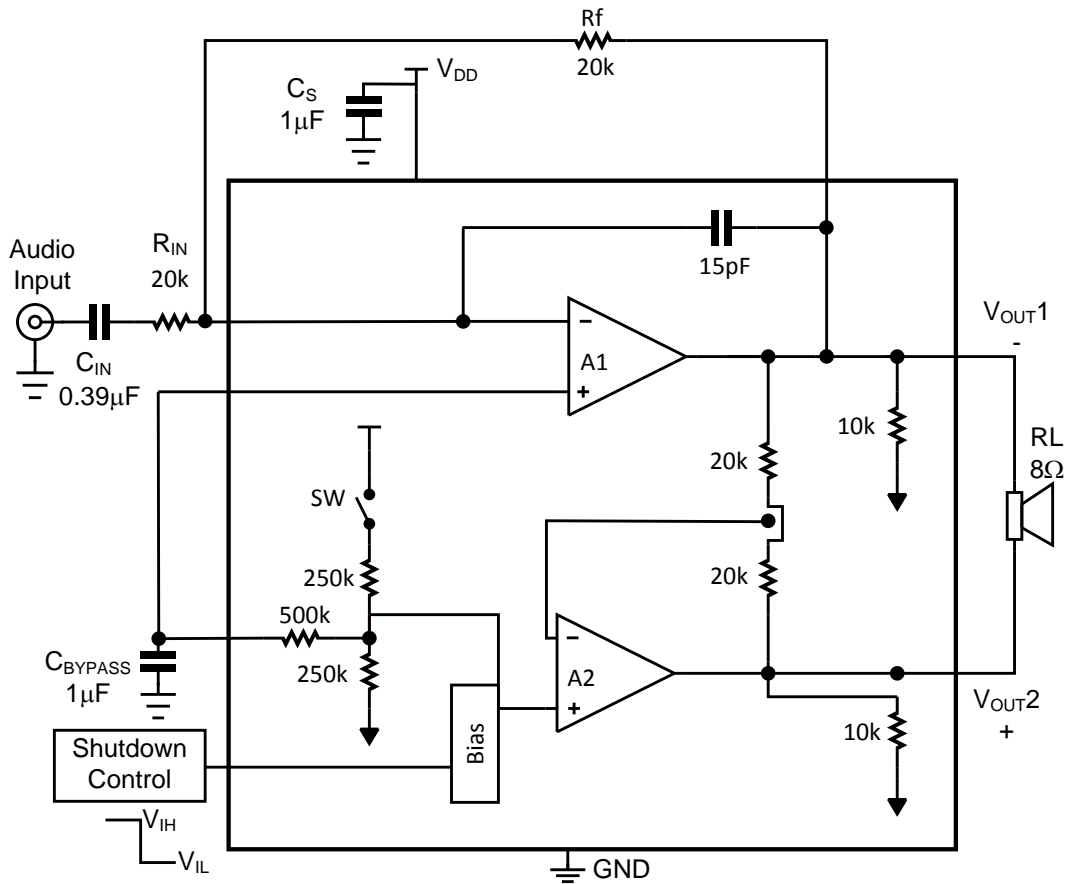

Figure 7. Typical Audio Amplifier Application Circuit
The following specifications apply for the circuit shown in Figure 7 unless otherwise specified. Limits apply for  $T_A = 25^\circ C$ .
- (1) All voltages are measured with respect to the ground pin, unless otherwise specified.
- (2) *Absolute Maximum Ratings* indicate limits beyond which damage to the device may occur. *Operating Ratings* indicate conditions for which the device is functional, but do not ensure specific performance limits. *Electrical Characteristics* state DC and AC electrical specifications under particular test conditions which ensure specific performance limits. This assumes that the device is within the Operating Ratings. Specifications are not ensured for parameters where no limit is given, however, the typical value is a good indication of device performance.
- (3) For DSBGA only, shutdown current is measured in a Normal Room Environment. Exposure to direct sunlight will increase  $I_{SD}$  by a maximum of 2 $\mu A$ .
- (4) Typicals are measured at 25 $^\circ C$  and represent the parametric norm.
- (5) Limits are specified to TI's AOQL (Average Outgoing Quality Level).
- (6) Datasheet min/max specification limits are specified by design, test, or statistical analysis.
- (7) ROUT is measured from each of the output pins to ground. This value represents the parallel combination of the 10k ohm output resistors and the two 20k ohm resistors.
- (8) PSRR is a function of system gain. Specifications apply to the circuit in Figure 7 where  $A_V = 2$ . Higher system gains will reduce PSRR value by the amount of gain increase. A system gain of 10 represents a gain increase of 14dB. PSRR will be reduced by 14dB and applies to all operating voltages.
The following specifications apply for the circuit shown in Figure 7 unless otherwise specified. Limits apply for  $T_A = 25^\circ\text{C}$ .
(8) PSRR is a function of system gain. Specifications apply to the circuit in Figure 7 where  $A_V = 2$ . Higher system gains will reduce PSRR value by the amount of gain increase. A system gain of 10 represents a gain increase of 14dB. PSRR will be reduced by 14dB and applies to all operating voltages.